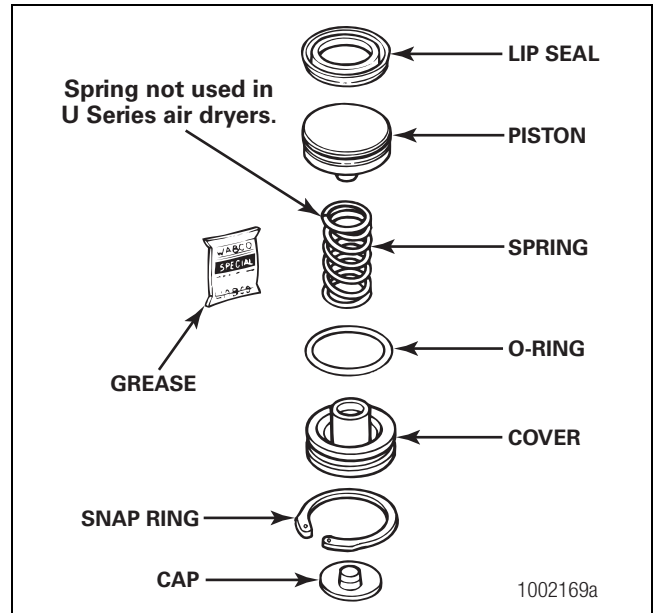

Figure 3.7
1. Review Figure 3.7 to ensure you have all of the parts required to replace the turbo cut-off valve.